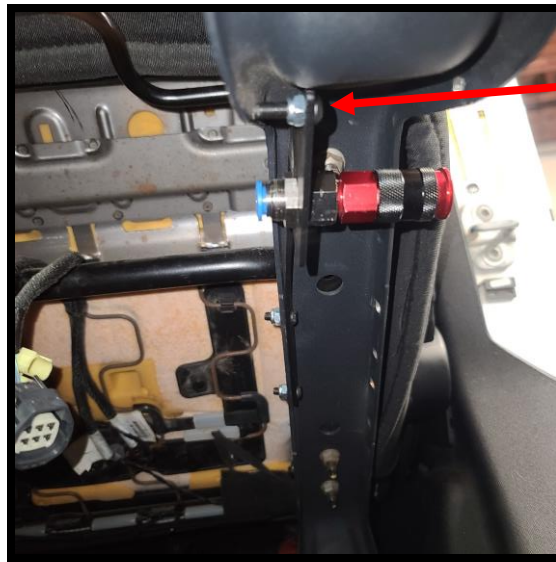

Figure 3
- 2-C) Install a M6x20mm button head bolt / nut at the tip of the seat bracket and install one of the provided couplers. Mount the seat bracket as shown in **Figure 3** using two of the provided M6x16mm bolts / nuts. The bolt/nut you installed does not need to be bolted to the frame rail nor require any drilling. Due to the shape of the seat frame rail, it is there to angle the coupler for easier access. Typically, the coupler will still be pointed down slightly and now is a good time to pull up on the coupler to slightly bend the seat bracket, so the coupler is directed straight out (makes it easier to connect y-connector when airing tires). Repeat on driver's side.